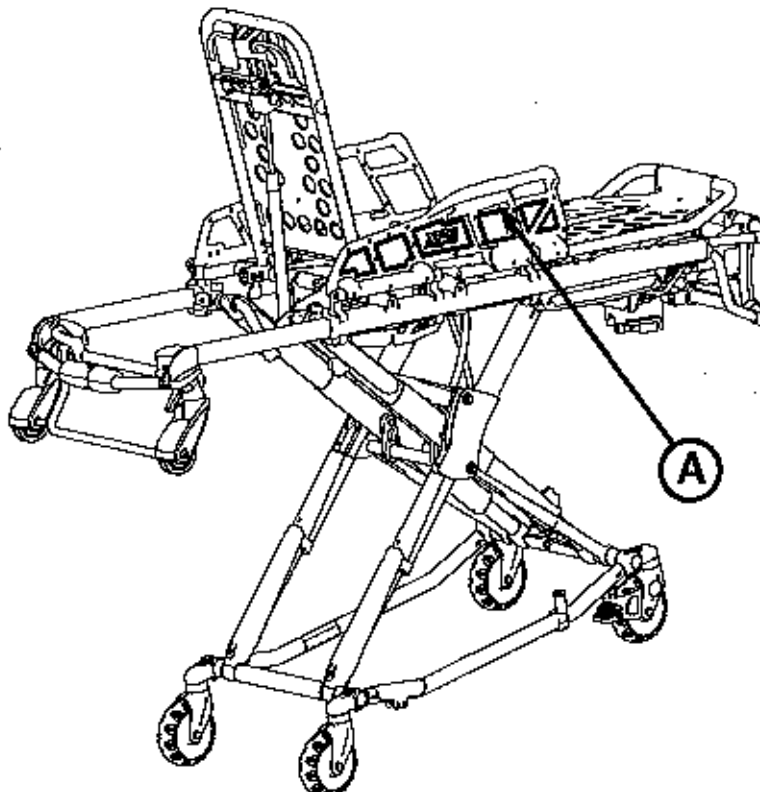

Figure 51
To lower the siderails, lift up to relieve the weight, then pull the red lever (A) (Figure 51).